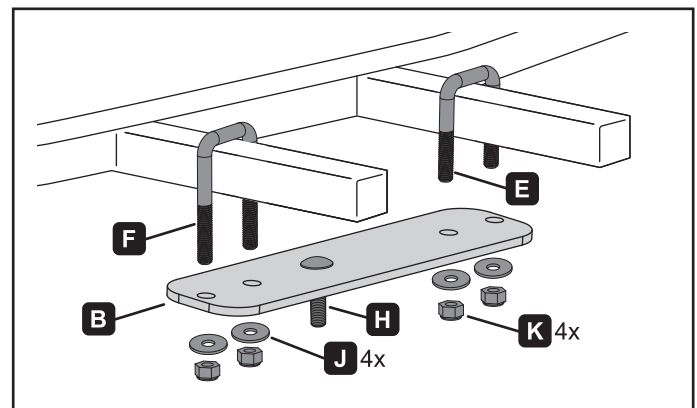

Figure 2. Left side.
3. Attach the mount plate support brackets (B) to the rear U-bolts (E) and loosely fasten with flat washers (I) and lock nuts (J). Install carriage bolt (G) on the driver side as shown in figure 2 and carriage bolt (H) on the right side as shown in figure 3.
5. Loosely fasten the mount plate to the frame using the U-bolts (E) or (F), carriage bolts (H) or (I), flat washers (J), and lock nuts (K).